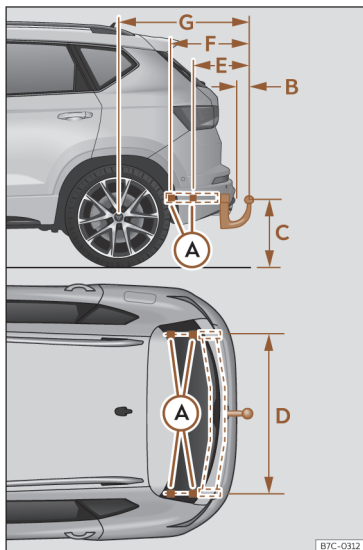

Fig. 175 Limits and attachment points for retrofitting a towing bracket.
The distance between the centre of the ball head and the road >>> **Fig. 175 (C)** must never be less than that indicated. This also applies when the vehicle is fully loaded, including the technically permissible maximum vertical load on the coupling device.